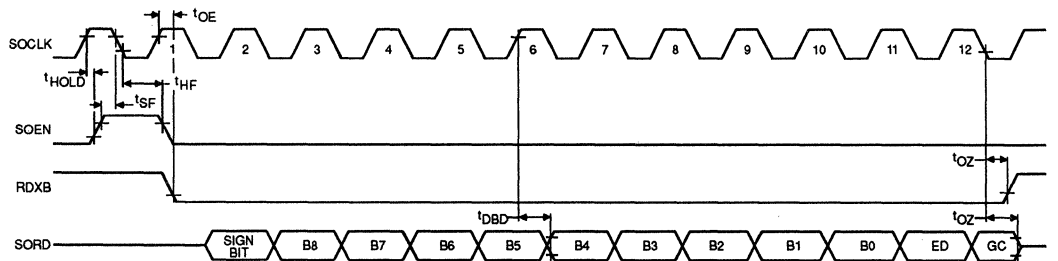

Figure 6a. Serial Output Timing
Twelve bits of data are shifted out of the AFE serial output (SO) pin using 12 periods of SOCLK. Transmission begins with an SOEN pulse as shown in Figure 6a. The data bits are valid on the falling edge of the SOCLK. The first output bit will be the MSB.